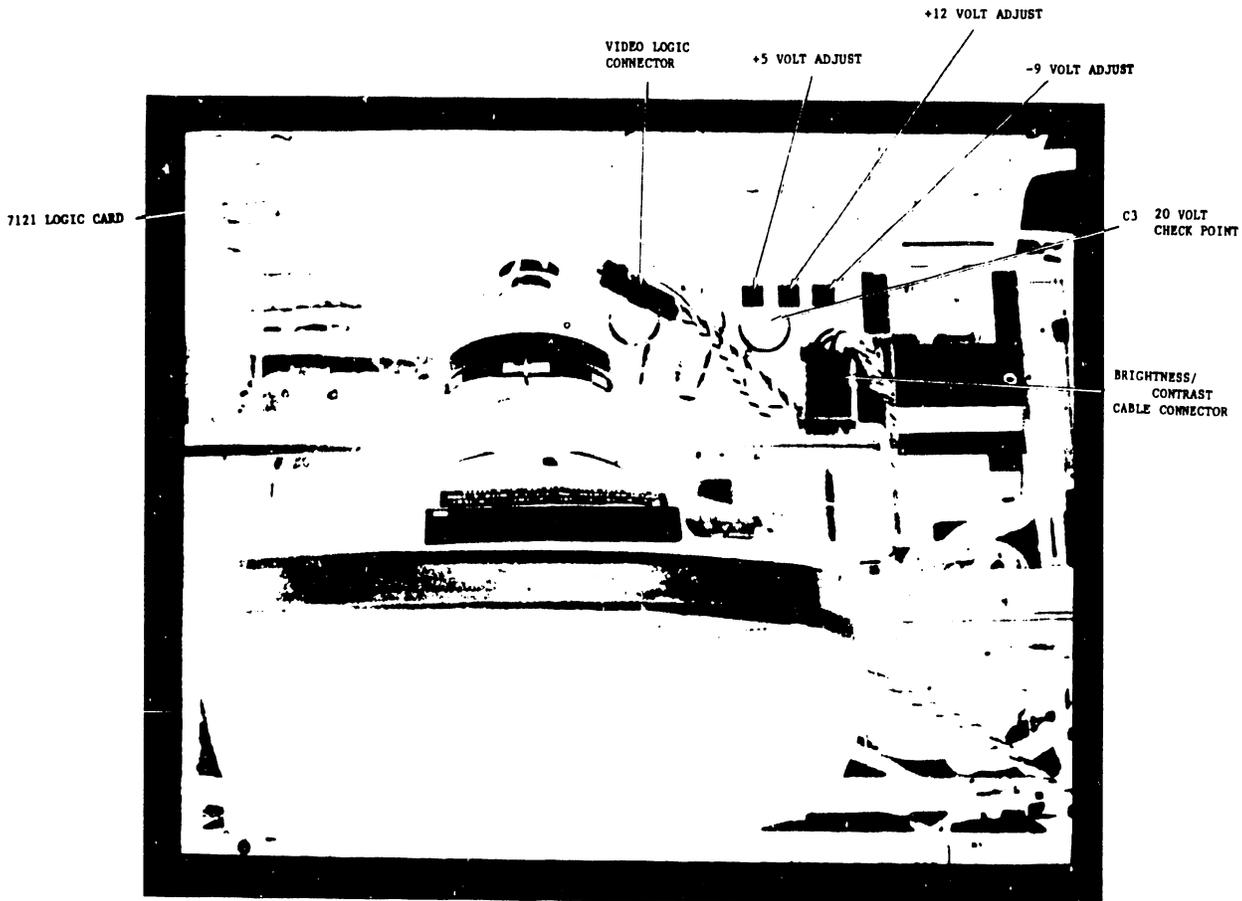
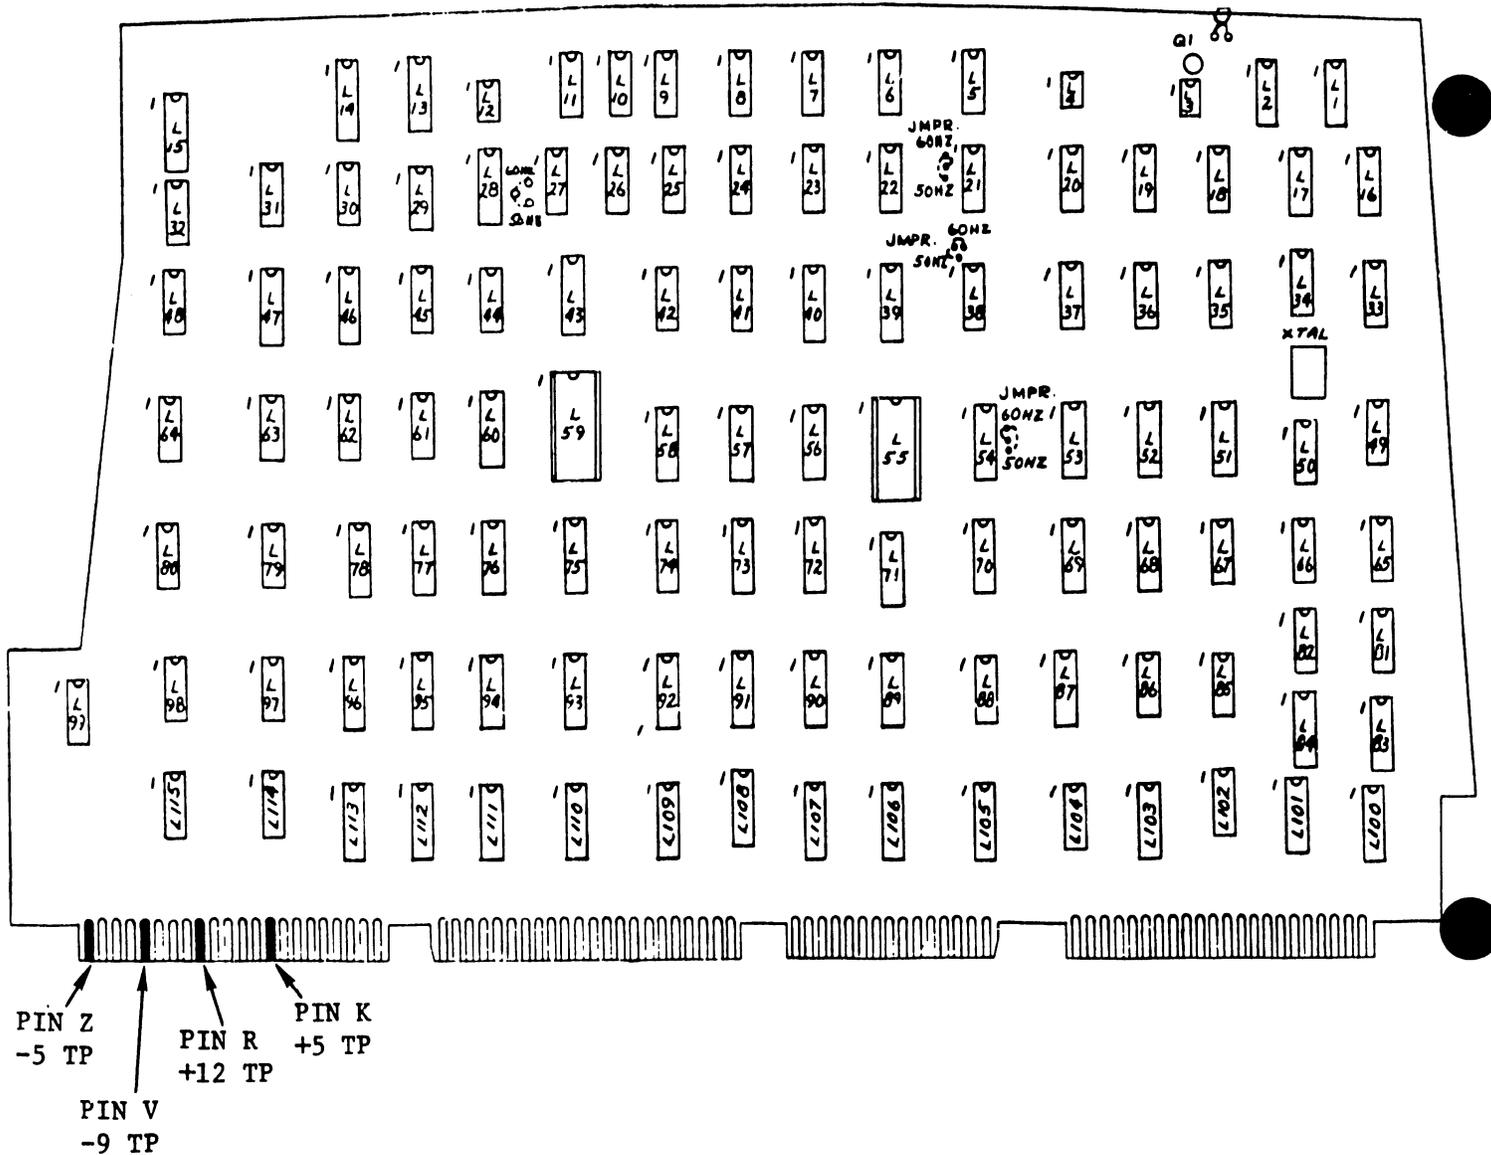

FIGURE 4-72 TOP VIEW OF WORKSTATION
FIGURE 4-73 7121 LOGIC CARD TEST POINTS
- 7121 Workstation Logic (Ref: Figure 4-72)
- 7123 Power Supply (Ref: Figure 4-72)
+20 - At C3 on the power supply card (Ref: Figure 4-72).
-5VR - At pin Z of 7121 connector 4 (Ref: Fig. 4-73).
- +5VR \pm .1 - At pin K of 7121 connector 4 (Ref: Fig. 4-73). If this voltage is not within specification, adjust it (Ref: Fig. 4-72).
- +12V \pm .1 - At pin R of 7121 connector 4 (Ref: Fig. 4-73). If this voltage is not within specification, adjust it (Ref: Fig. 4-72).
- 9V - At pin V of 7121 connector 4 (Ref: Fig. 4-73). If this voltage is not within specification, adjust it (Ref: Fig. 4-72).